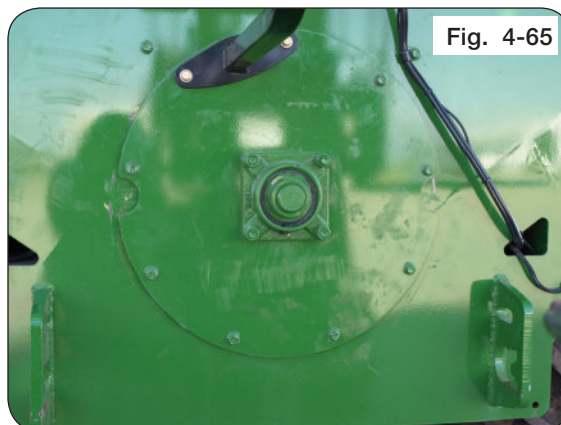

Fig. 4-65
29. Insert hardware for rear auger cover, SMV bracket, and rear ladder, if equipped. Torque hardware to specification. (Fig. 4-65 and 4-66)
30. Torque all hardware to specification. See "Torque Chart" in this section. (Figs. 4-65 and 4-66)